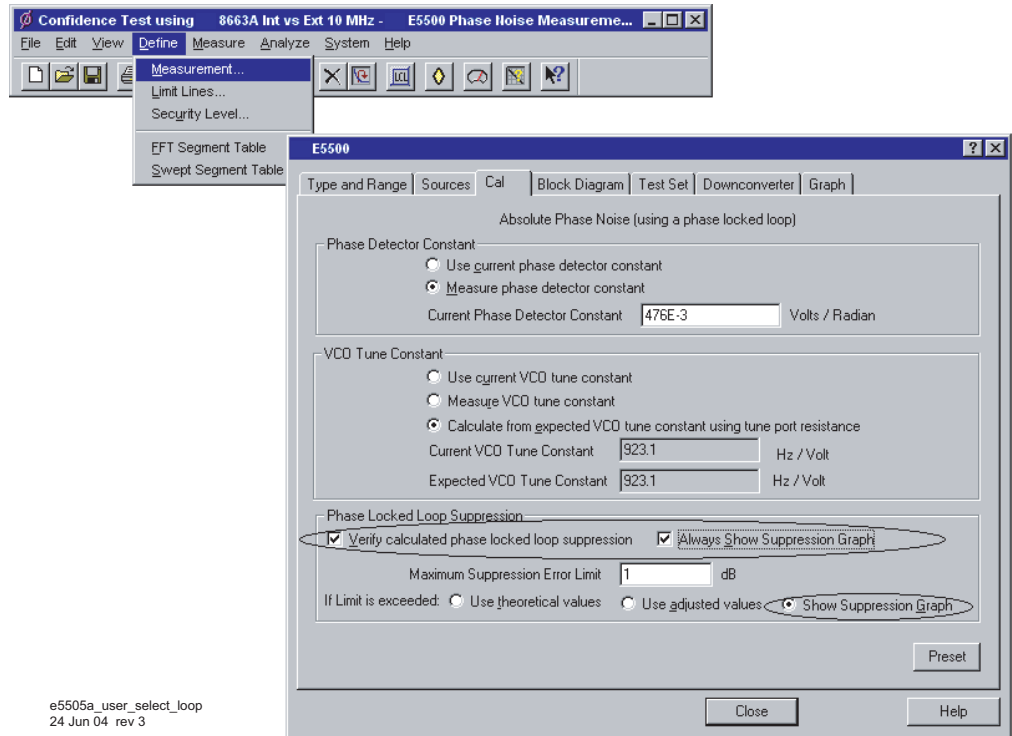

Figure 112 Selecting loop suppression verification
- 1 Using Figure 112 as a guide, navigate to the **Cal** tab.